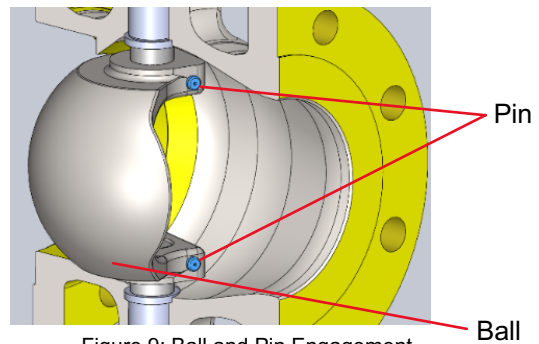

Figure 9: Ball and Pin Engagement
9. Rotate the ball and position the pin hole facing the body port (RF side) turn the shaft flat to allow the taper pins to slide through the ball pin holes and engage the shaft as shown in the Figure 9. Insert new taper pins in the direction towards the seat side of the body port.
10. Turn the post flat (using tap hole provided in the post bottom face) to allow the taper pins to slide through the ball pin holes and engage the post as shown in the Figure 9. Insert new taper pins in the direction that is towards the seat side of the body port.